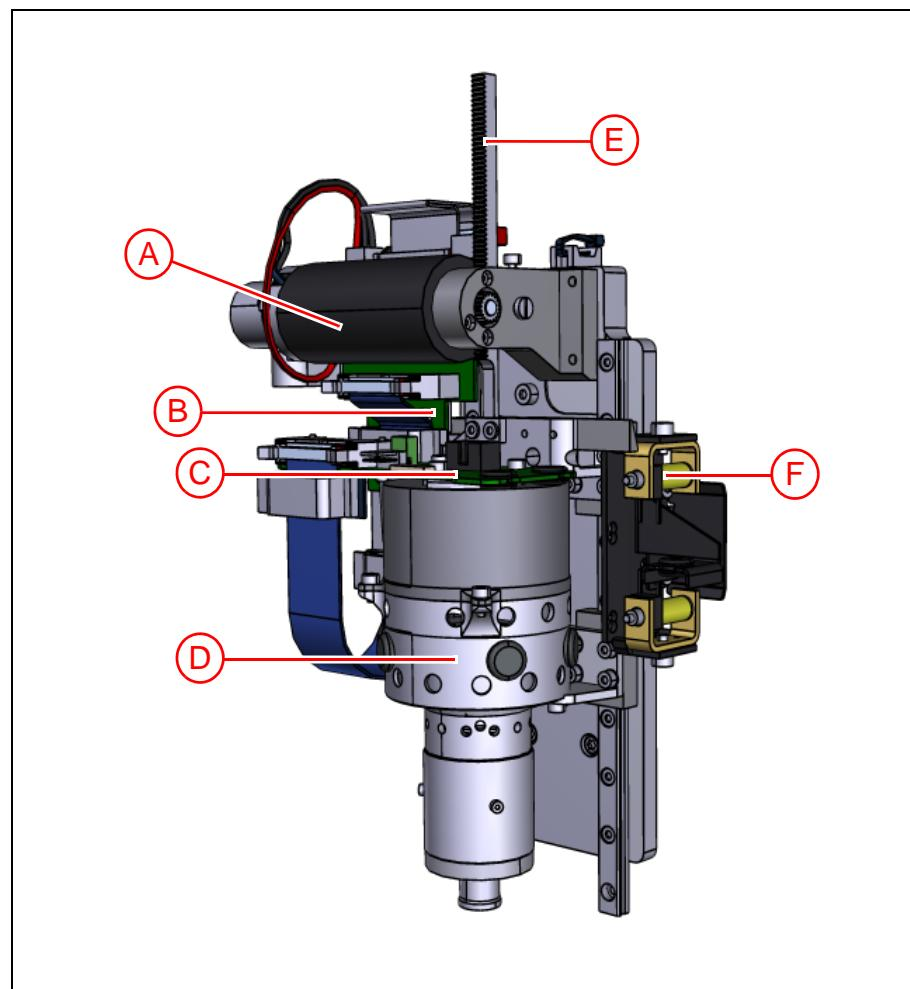

Figure 6-4. Midas unit.
- Midas Z motor ('A' in Figure 6-4).
The Midas consists of two main units, the Z unit and the Theta unit (See Figure 6-4), which are assembled together. These two units include all devices needed for the Z movement and the Theta movement respectively.
Midas II consists of two main units, the Z unit and the Theta unit (See Figure 6-4), which are assembled together. These two units include all devices needed for the Z movement and the Theta movement respectively.
If the placement machine is equipped with the new mount head carrier plate (X wagon), then Midas II can be attached directly to the X wagon using three screws. Otherwise an adapter plate (see 'K' in Figure 6-4) is used to match the Midas II hole pattern with the hole pattern on the X wagon.